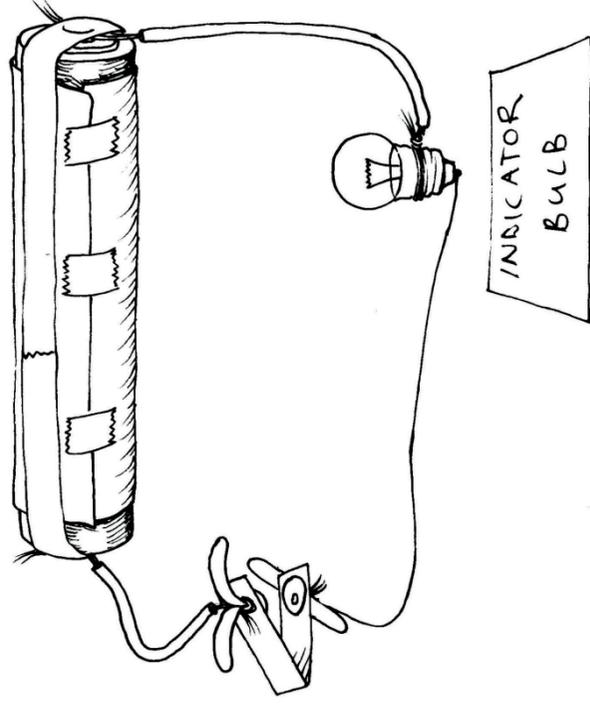

Figure 3
1. Set up the circuit shown in Figure 3. Press the switch to make the bulb glow, and notice how brightly it glows. This first bulb will be your *indicator bulb*.
But the indicator bulb is glowing less brightly than in the circuit in Figure 3. So the current is now smaller than it was in the circuit in Figure 3.